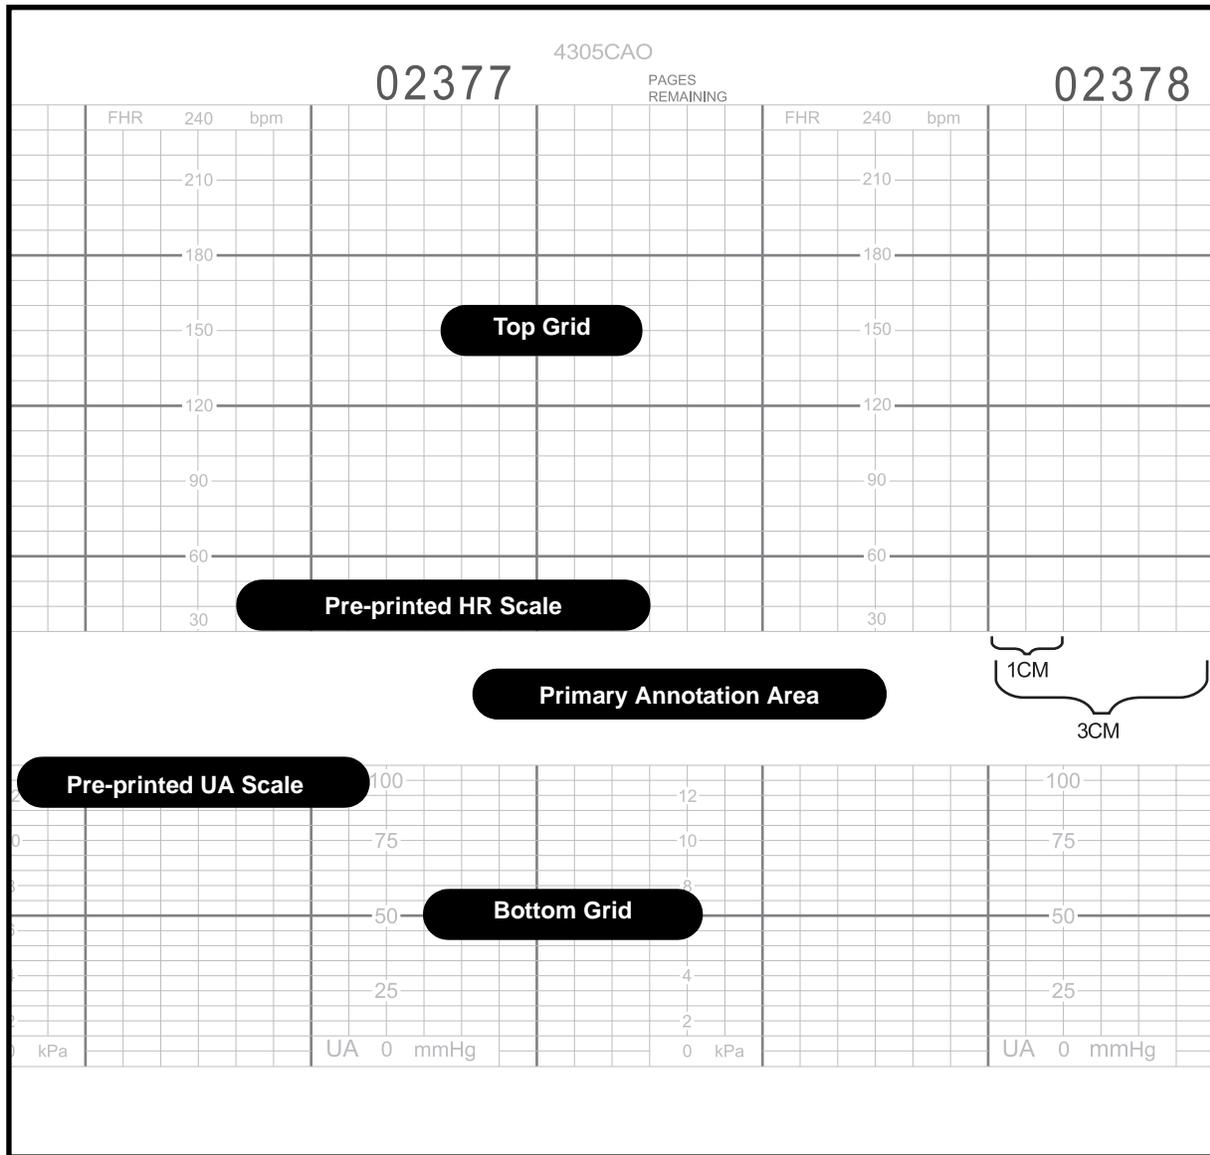
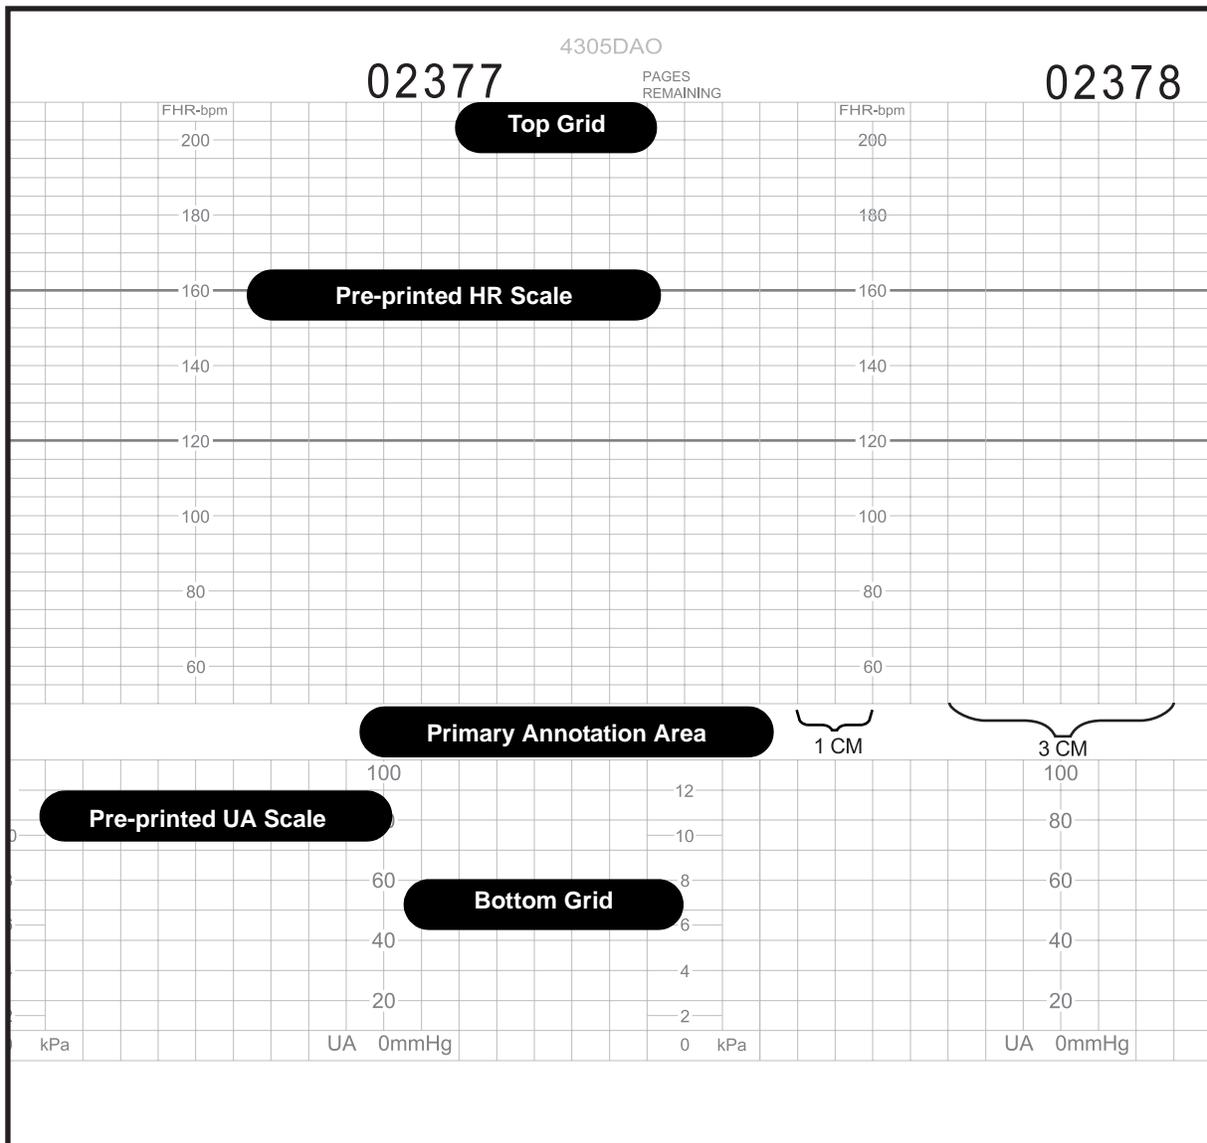

Figure 12-1. Strip Chart Paper with 30–240 BPM Heart Rate Scale
Figure 12-2. Strip Chart Paper with a 50–210 BPM Heart Rate Scale
- Z-Fold Chart Paper with Pre-Printed **30–240** BPM Heart Rate Scale (Refer to Figure 12-1.)
- Z-Fold Chart Paper with Pre-Printed **50–210** BPM Heart Rate Scale (Refer to Figure 12-2.)
In the United States of America, the most common grid is the 30-240 BPM scale with the recorder speed set at 3 cm/min. As shown in Figure 12-1, a dark line is printed every 3 cm, which represents 1 minute in time at a speed of 3 cm/min.
In other countries, the most common grid may be the 50–210 BPM scale with the recorder speed set at 1 cm/min. As shown in Figure 12-2, every other vertical line measures 1 cm, or 1 minute in time at a speed of 1 cm/min.
Regardless of the heart rate scale, the uterine activity scale is pre-printed from 0–100 mmHg; this same scale is used for relative units. When SpO₂ and monitoring is in progress, the scale is printed on the paper by the recorder. Figure 12-1 and Figure 12-2 also call out the top grid, bottom grid, and the annotation area for each style paper.